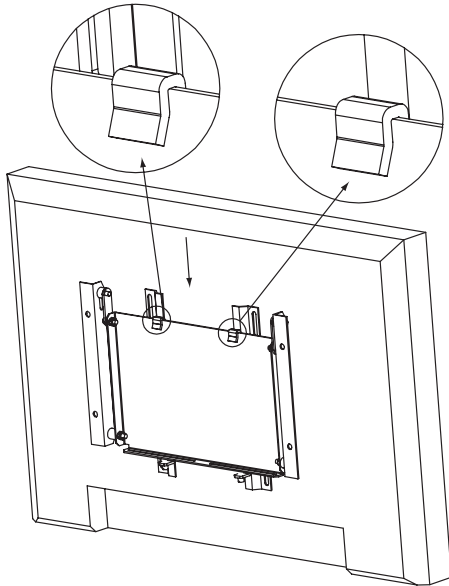

Figure 3
- ⑤ Hang the screen with the mounted plates onto upper edge of the bracket. Make sure that the distance between hooks and the side brackets is equal on each side. Press the lower part of the screen towards the bracket, until you hear a "click" (see Fig. 3).